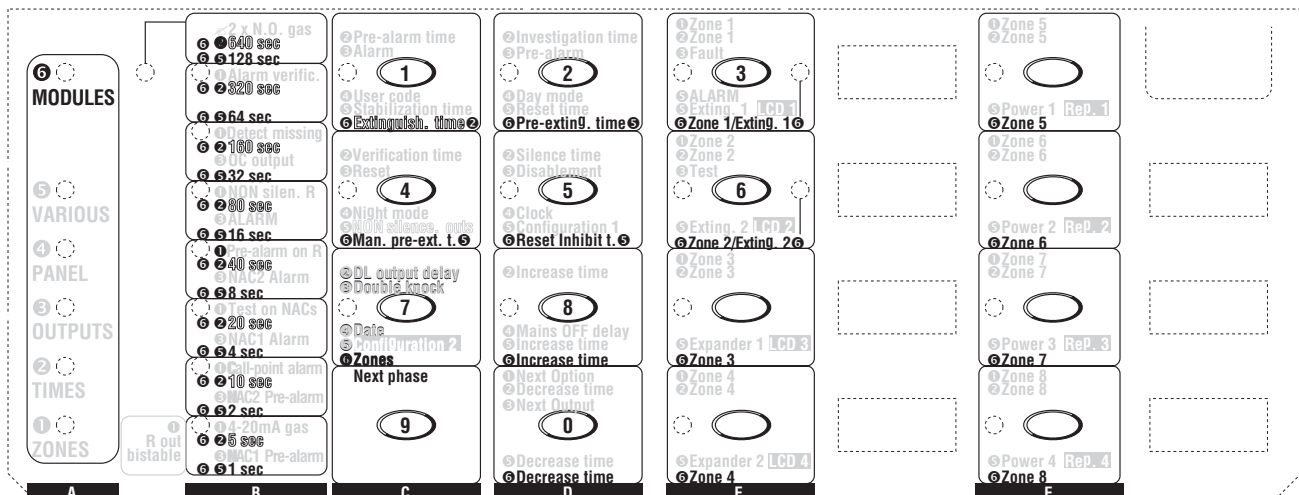

Figure 35 The “Modules” Programming Phase
The **MODULES** LED will blink to indicate that the system is ready to program the parameters of the Extinguishment Modules. During this phase, the keys and LEDs will operate in accordance with the options preceded by ⑥ in the panes on the Programming Overlay, see Figure 35.